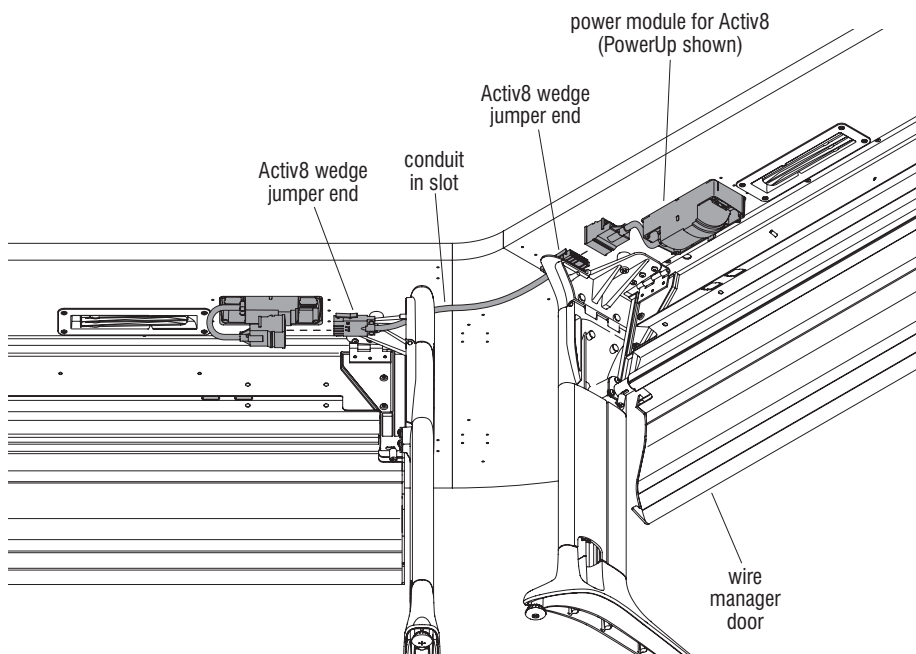

Figure 9
1. Open the wire manager door of each table (Figure 9).
2. Snap the Activ8 wedge jumper ends into each table's power module for Activ8 (PowerUp module shown). Be sure the clip engages on each jumper for a secure fit. Position the steel conduit of the jumper into the slot at the back, top of each table's leg as illustrated (Figure 9).